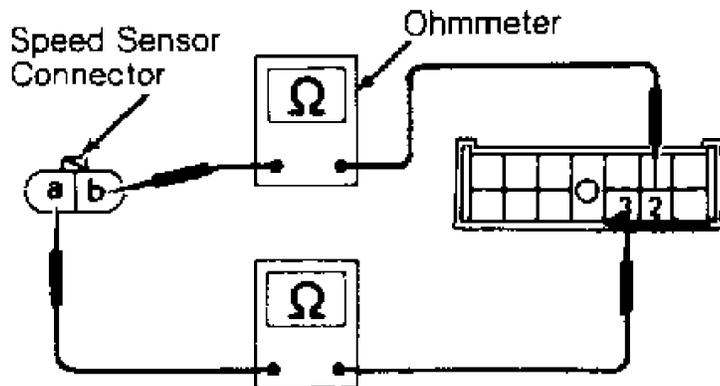

Fig. 22: Testing Speed Sensor Continuity (Q45 Shown; M30 Similar)
4) Check continuity between terminal No. 18 and speed sensor terminal "A". See Fig. 22. Check for continuity between terminal No. 15 and speed sensor terminal "B". If continuity exists, go to next step. If continuity is not present in either test, repair wire harness/connectors between speed sensor and instrument cluster.
4) Check continuity between terminal No. 3 and speed sensor terminal "A". See Fig. 22. Check for continuity between terminal No. 2 and speed sensor terminal "B". If continuity exists, go to next step. If continuity is not present in either test, repair wire harness/connectors between speed sensor and instrument cluster.